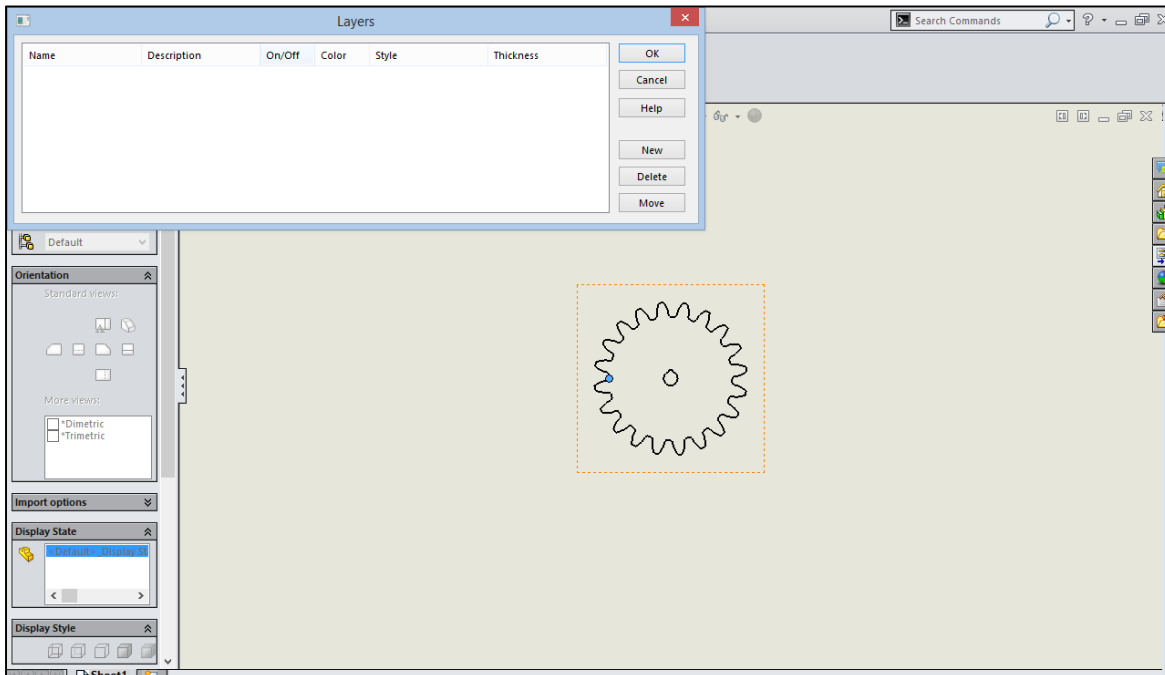

Figure 6
- 4 We need to make this drawing into the vector cut red for the UCP. Right anywhere on the drawing and select 'Change Layer'. A window will open giving your layer selection options, select the 'Layer Properties' icon. This will open the 'Layers' window (Figure 6).